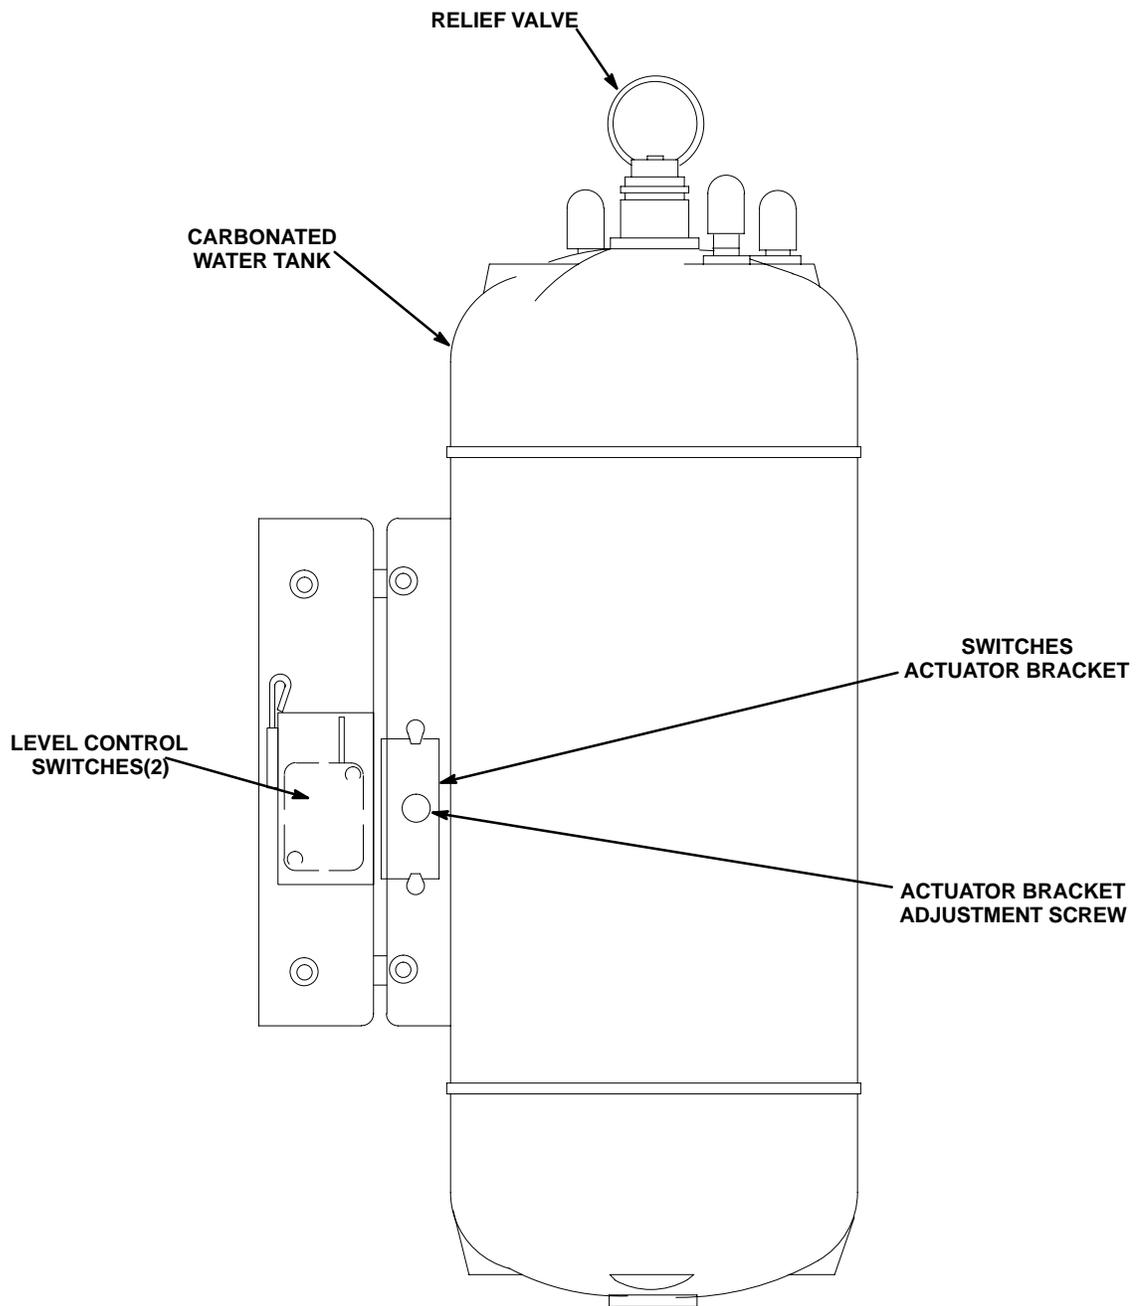

FIGURE 15. CARBONATOR LIQUID LEVEL CONTROL SWITCH ADJUSTMENT
5. If total carbonated water dispensed is below 40–ounces, loosen screw securing level control switches actuator bracket (see Figure 15) and move actuator bracket up slightly. If more than 58–ounces, maximum of carbonated water was dispensed, move actuator bracket down, then tighten screw. MAKE ADJUSTMENTS IN SMALL INCREMENTS.